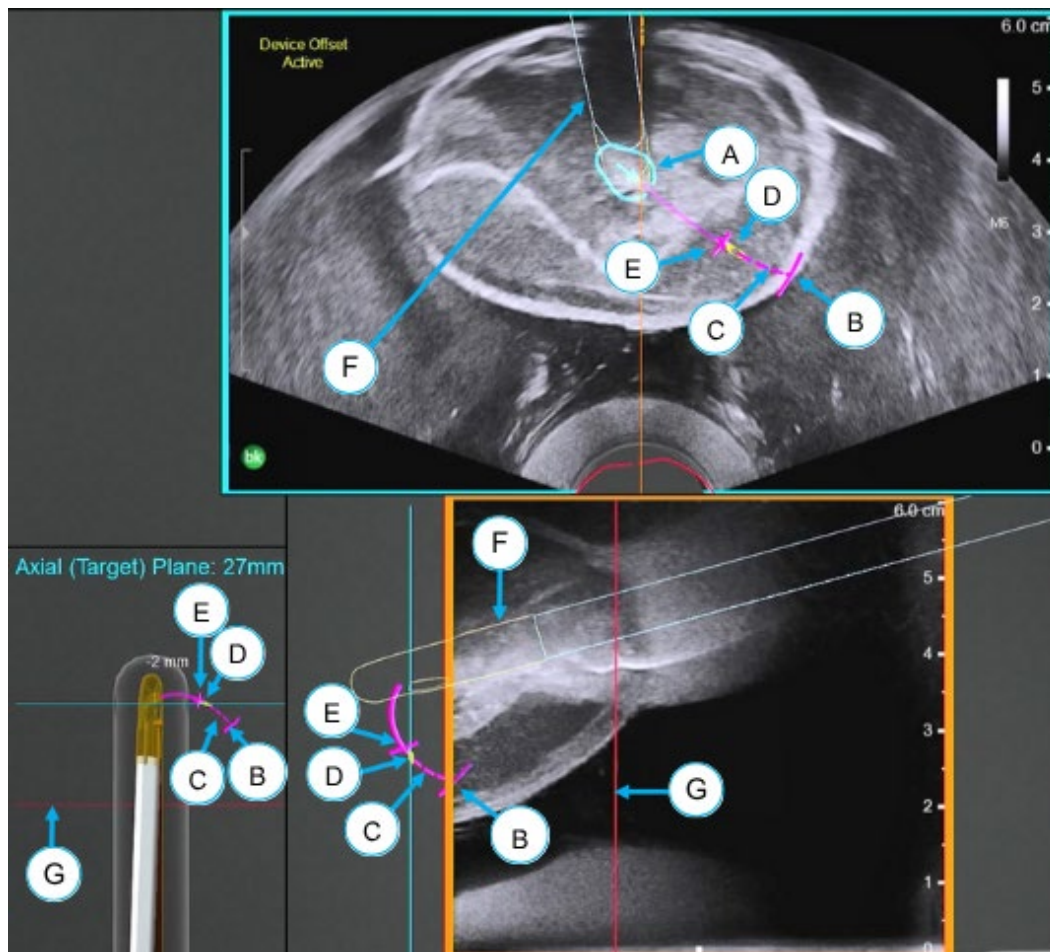

Figure 8-23: Visual Guidance Cues Prior to Needle Deployment
- Guidance cues displayed **prior to needle deployment** are described in **Table 49** and **Figure 8-23**.